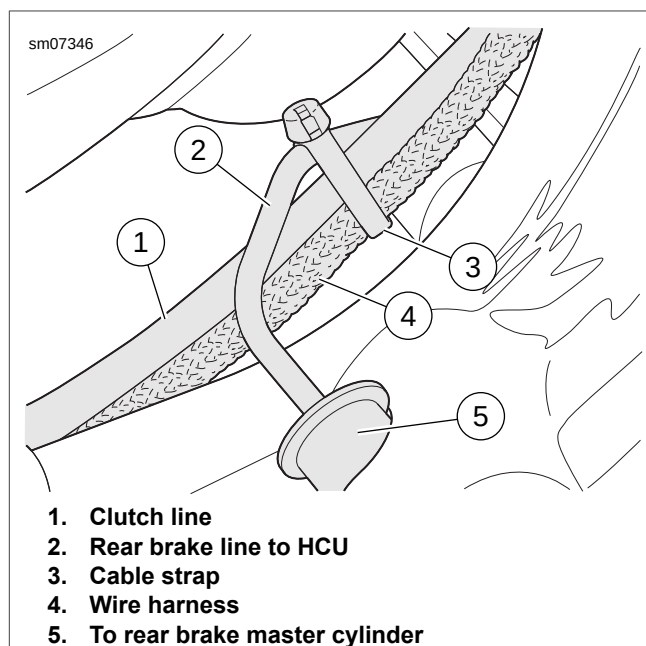

Figure 2-29. Clutch Line Routing (Right Footrest Area)
5. See Figure 2-29. Remove cable strap (3).
7. See Figure 2-29. Install cable strap (3) to secure clutch line (1), rear brake line (2) and wire harness (4).